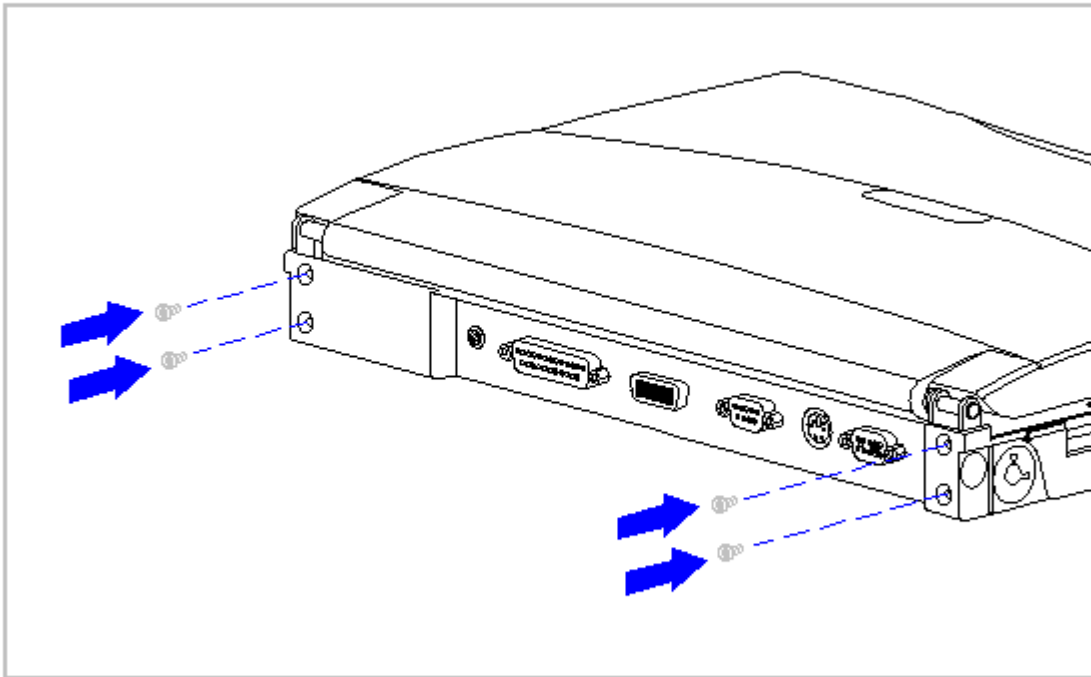

Figure 3-179. Replacing the Rear Clutch Screws (All Models)
28. Replace the four rear clutch screws (Figure 3-179).